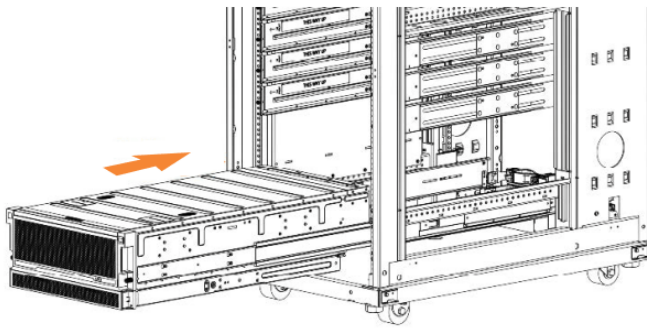

Figure 60. Example installation of the enclosure in the rack
- Install the expansion enclosure in the lowest position in the rack. Figure 60 on page 57 shows an example.